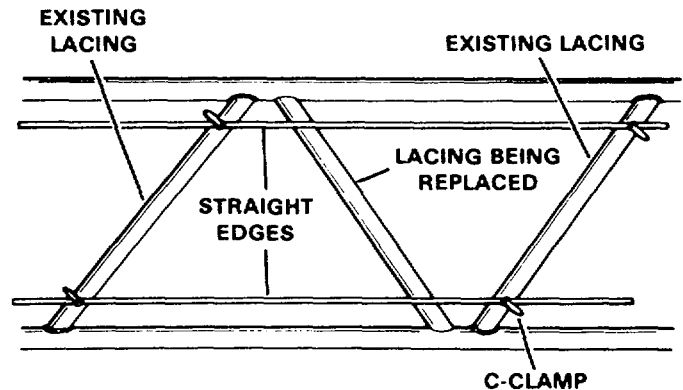

Figure 14-11. Aligning Replacement Lacing
6. New lacings shall be installed in alignment with adjacent lacings. Accomplish this alignment by placing two straightedges on existing lacings, one on each side of the lacing being replaced. Clamp the straightedges firmly against the existing lacings, bring the replacement lacing against the straightedges, and hold in this position while welding is performed. See Figure 14-11.